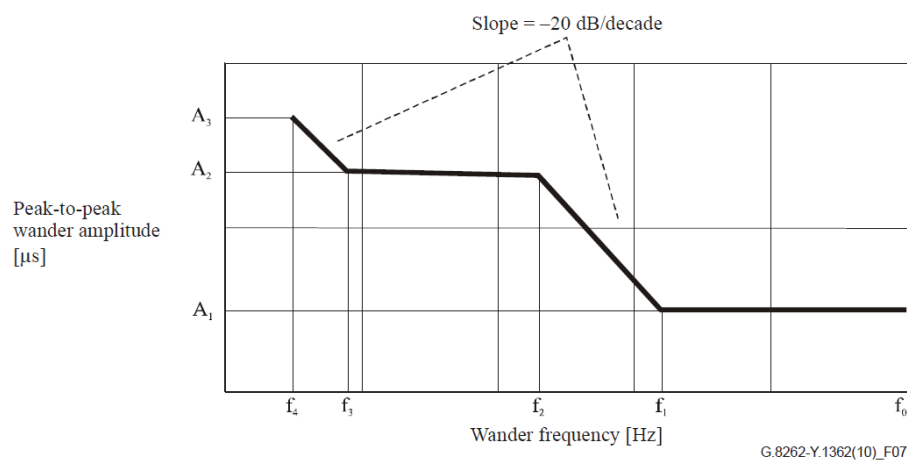

Figure 7 – Lower limit of maximum tolerable sinusoidal input wander for EEC-Option 1
| EEC Option 1 | <ul style="list-style-type: none"> MTIE Wander Table 7/Figure 5 TDEV Wander Table 8/Figure 6 Sinusoidal Wander Table 9/Figure 7 | The EEC is; <ul style="list-style-type: none"> Maintaining the clock within performance limits. Not causing any alarms. Not causing the clock to switch reference. Not causing the clock to go into holdover. | To check whether the EEC is switching references or going into holdover, the Paragon can measure the wander and/or ESMC QL of the EEC output. |
| EEC Option 1 | Not defined | The phase gain of the EEC should be smaller than 0.2 dB (2.3%). | There is no definition of the input stimulus to be used in G.8262. Without further guidance from the Standards, it is suggested that the amplitude and frequency values associated with mask points labelled f1, f2 & f3 on G.8262 Section 9.1.1, Table 9 & Figure 7 are used. |
- Measured at each corner point in G.8262/Figure 7
The resultant requirements are shown in Figure 7.